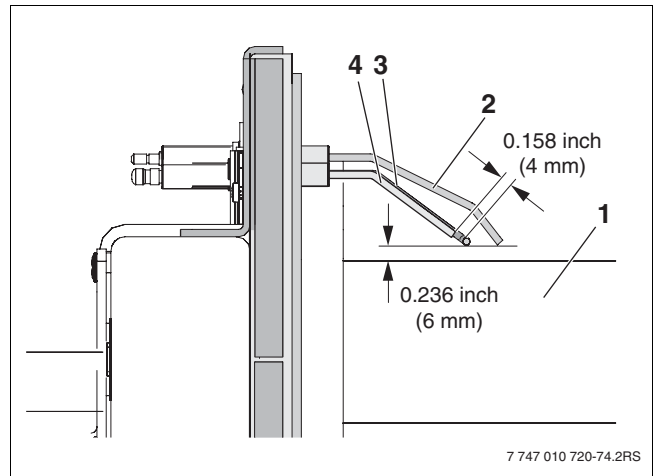

Fig. 70 Checking electrode position for propane
- Measure the distances between the electrodes as shown in Fig. 70 and adjust as necessary.
- Adjust the electrode bracket so that the electrodes are in the position shown in Fig. 70.